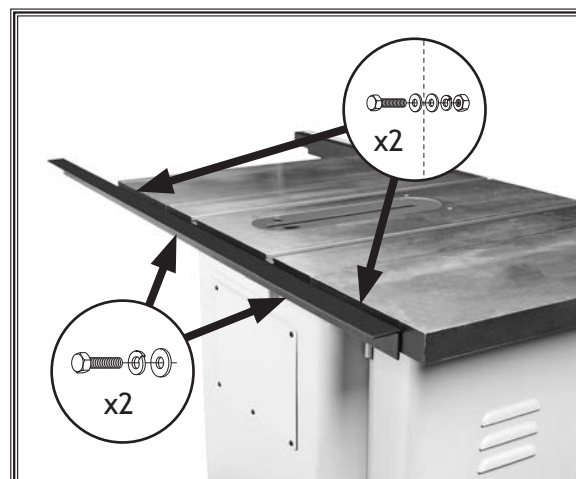

Figure 18. Rear rail attached parallel with the table top.
10. Attach the rear rail to the table with (2) M10-1.5 x 25 hex bolts, 10mm lock washers, and 10mm flat washers, as shown in **Figure 18**.
11. Secure the rear rail to the extension wings with (2) M8-1.25 x 35 hex bolts, (4) 8mm flat washers, (2) 8mm lock washers, and (2) M8-1.25 hex nuts, as shown in **Figure 18**.